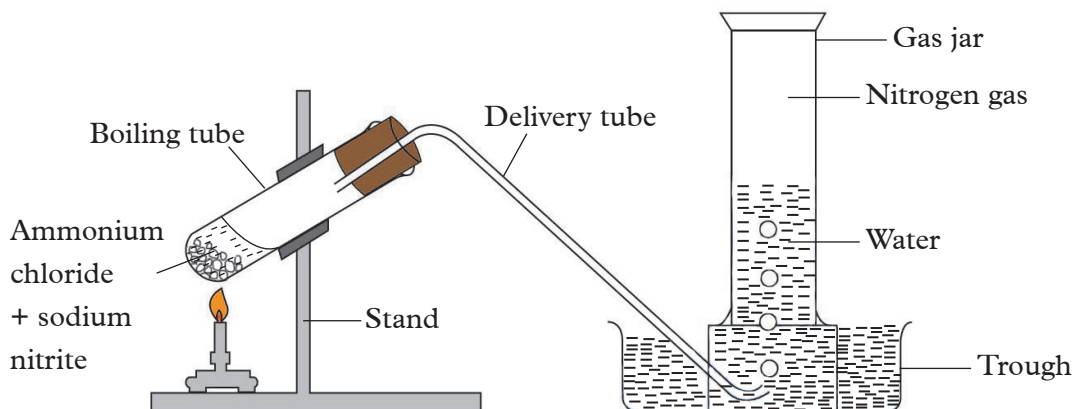

Fig.2.4: Laboratory preparation of nitrogen
3. Arrange the apparatus as shown in Fig. 2.4 below.